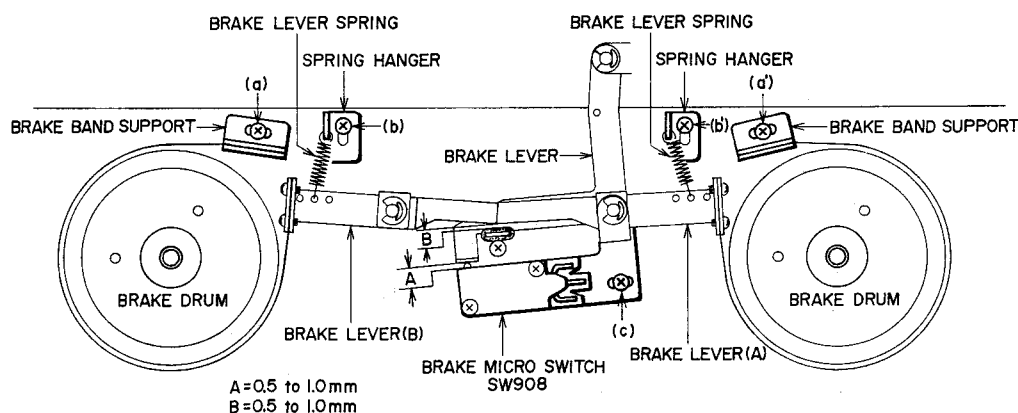

Fig. 14
5. BRAKE MICRO SWITCH INSTALLATION POSITION ADJUSTMENT (Refer to Fig. 14)
(Refer to Figs. 14, 15)